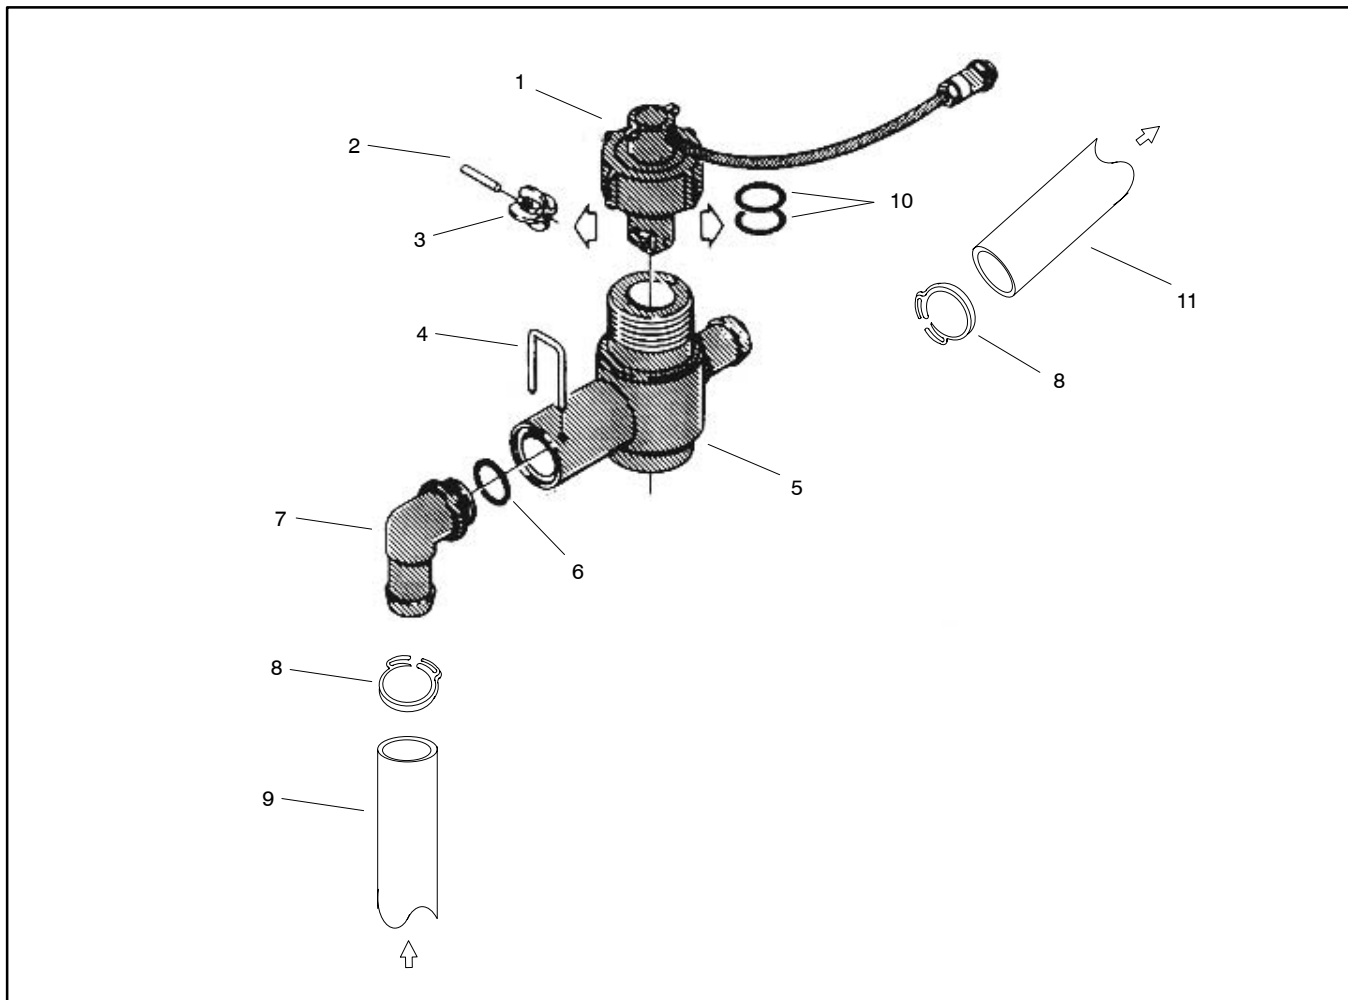

Figure 23
Removal and Inspection (Fig. 23)
7. If necessary, remove flowmeter housing using Figures 23 and 25 as guides (also see Spray Control (Multi Pro 1200) in this section). Discard all removed o-rings and gaskets.
Assembly (Fig. 23)
1. Reassemble flowmeter using Figures 23 and 25 as guides. Replace all removed o-rings and gaskets.